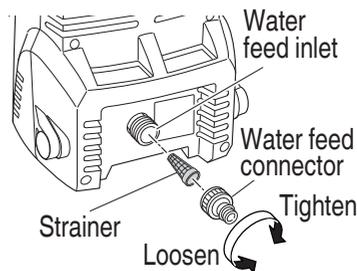

Fig. 20
2. Inspecting the strainer (Fig. 20)